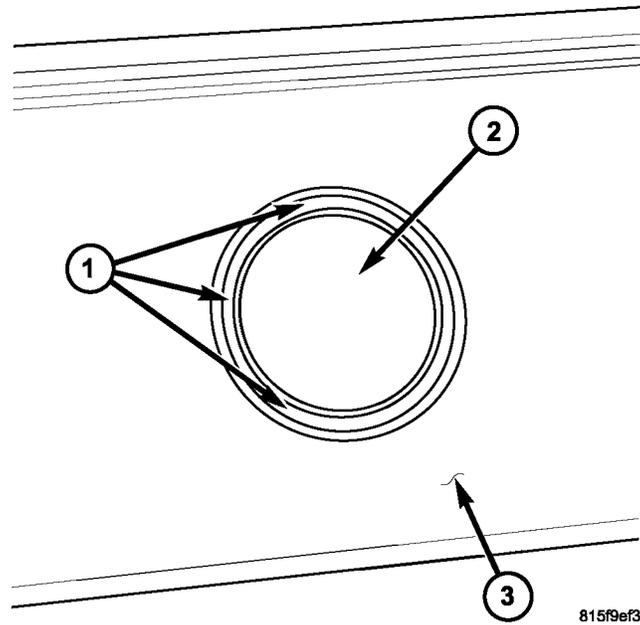

Fig. 2 SENSOR CENTERED IN FASCIA
- 16. Looking at the face (outside surface) of the fascia, inspect the face of each sensor to insure that it is centered in its opening and is not contacting the bracket/applique. Inspect each spacer to ensure that it is evenly spaced between the sensor and bracket/applique (Fig. 2).